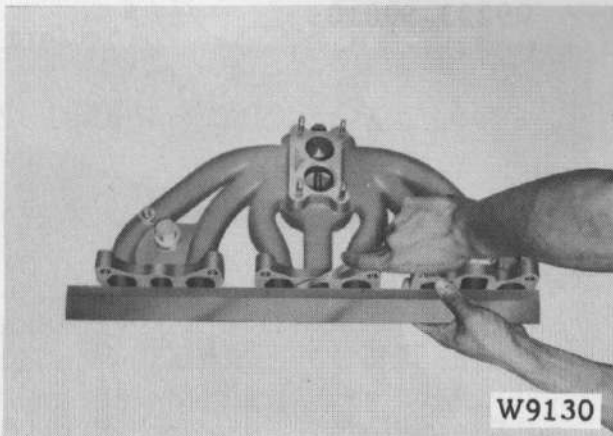

Fig. 2-84 Checking Intake Manifold Distortion
2. Check the distortion of the intake manifold as illustrated in figure 2-84. If the distortion exceeds 0.2 mm (0.008"), replace the intake manifold.